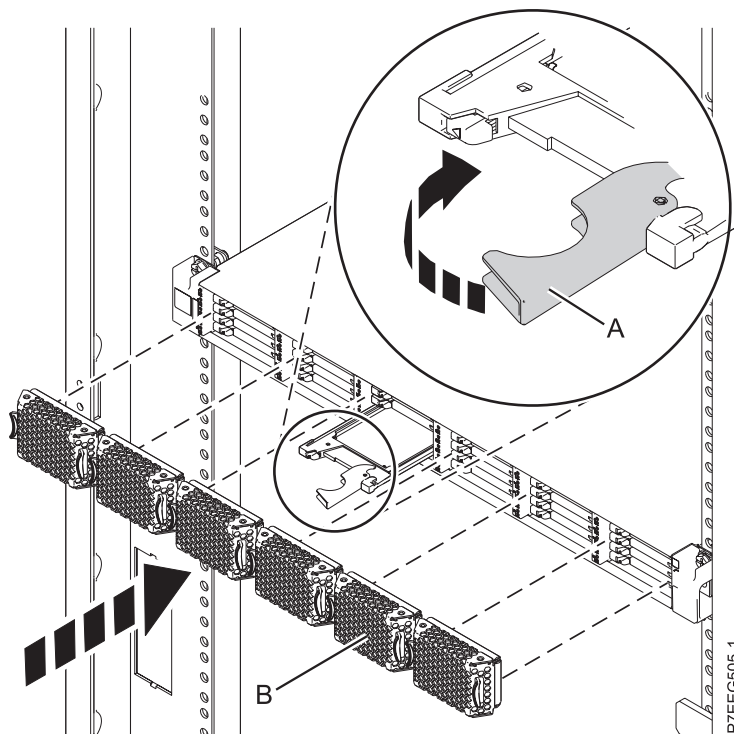

Figure 52. Replacing a solid-state drive in the EDR1 PCIe storage enclosure.
4. When the solid-state drive identify LED turns on solid, slide the solid-state drive all the way into the EDR1 PCIe storage enclosure until it is fully seated. Then rotate the handle (A) to the locked position. See Figure 52.
6. Install the bezel (B).